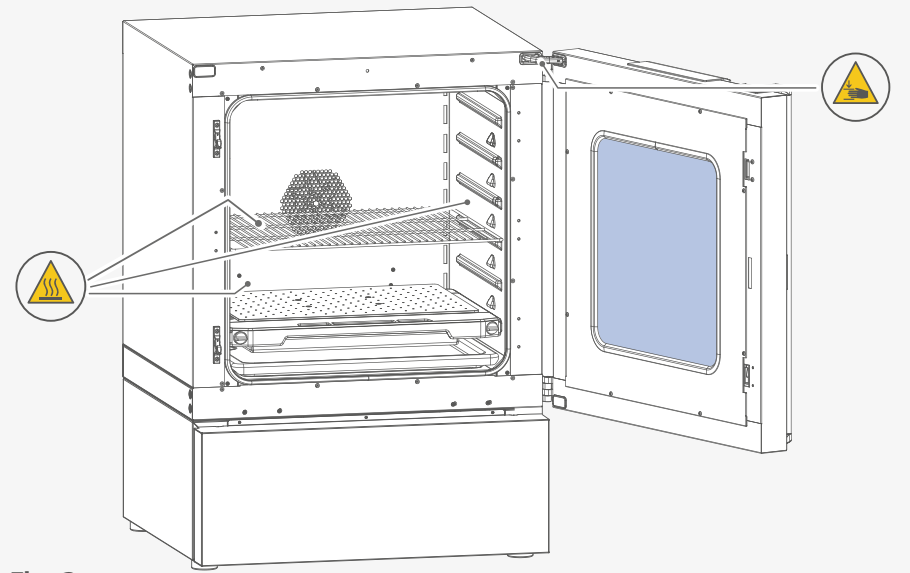

Fig. 2
- › Pay attention to the marked sites in Fig. 1 and Fig. 2.